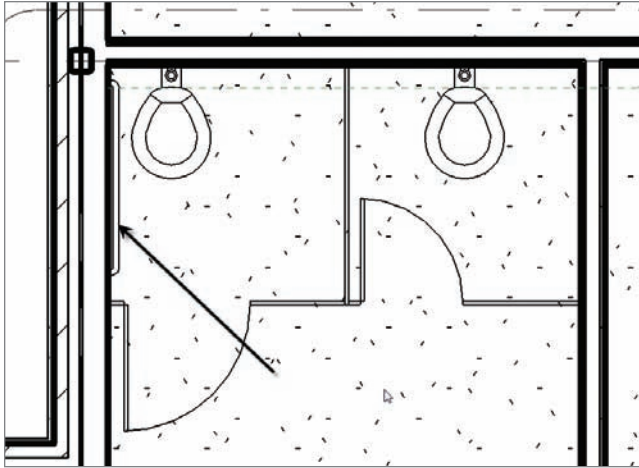

FIGURE 9.42 Adding the grab bar family to the wall
1. Zoom in on the accessible stall, as shown in Figure 9.42.
4. Place along the wall, as shown in Figure 9.42.